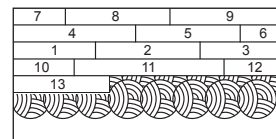

Figure 11d
- Be sure not to spread adhesive too far ahead of your work area (Figure 11d).